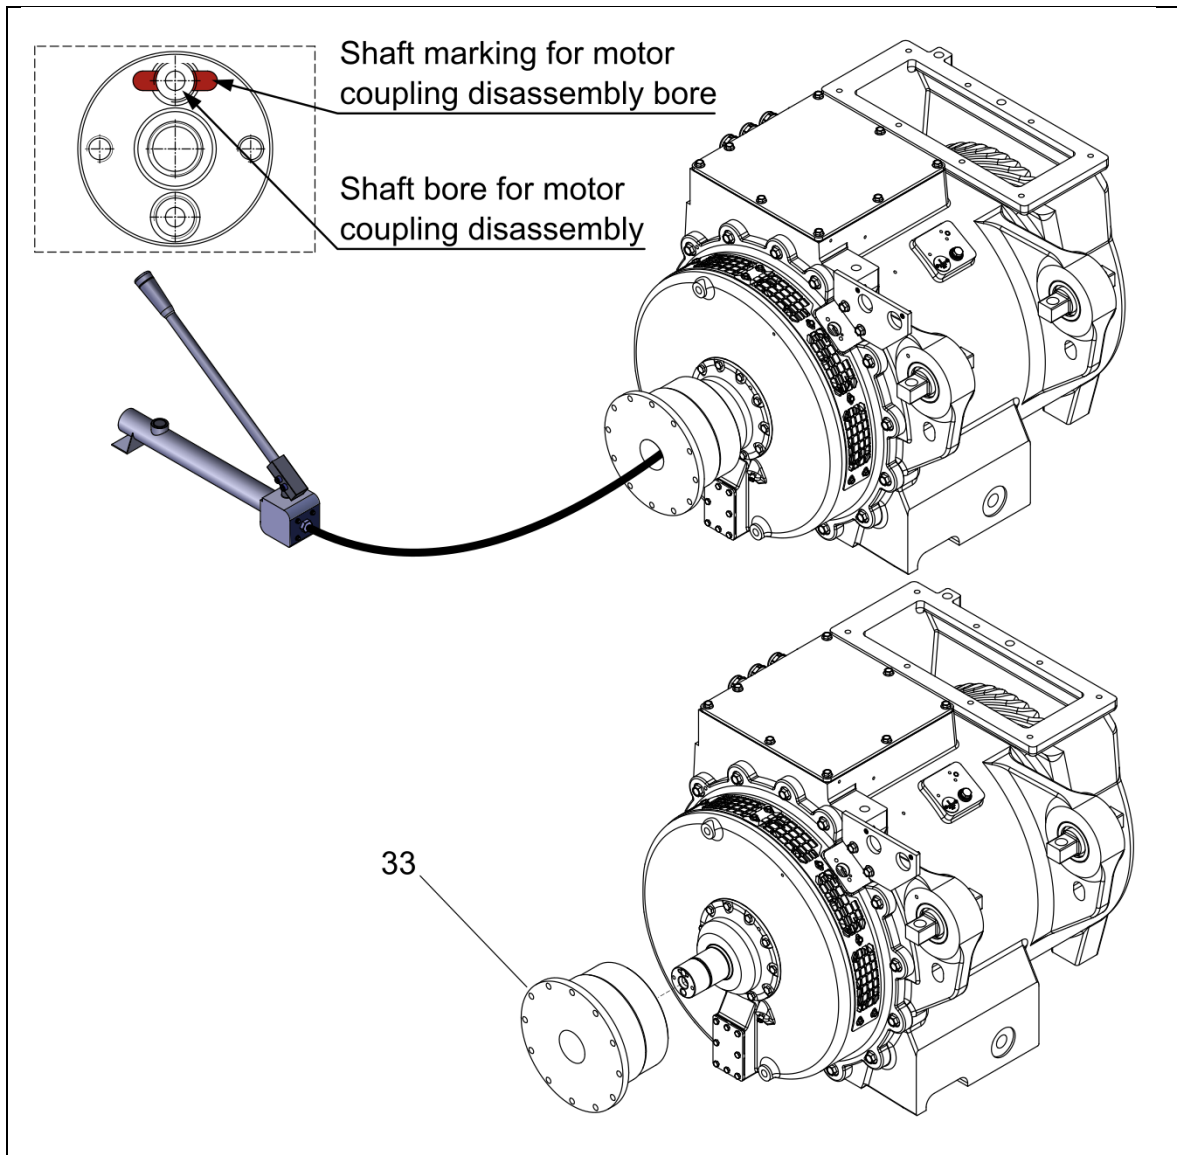

Figure 18: Disassembling the gear coupling half
- 2 Attach the hydraulic pump to the designated bore for disassembling of the gear coupling half (33) – see Figure 18.
- 3 Slide off the gear coupling half (33) when the oil leaks between the mating surfaces of gear coupling half (33) and rotor's shaft.
- 4 If necessary, remove the hydraulic pump (after the oil leaks between the mating surfaces), and attach the two-arm puller to remove the gear coupling half (33).